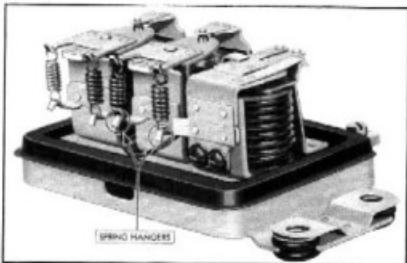

Fig. 27—Current Regulator Lower Spring Hanger
- Current setting of the regulator is adjusted by bending the spiral spring hanger down to increase the current setting, or bending up on the spring hanger to decrease spring tension and lower current setting, Fig. 27. Normally,